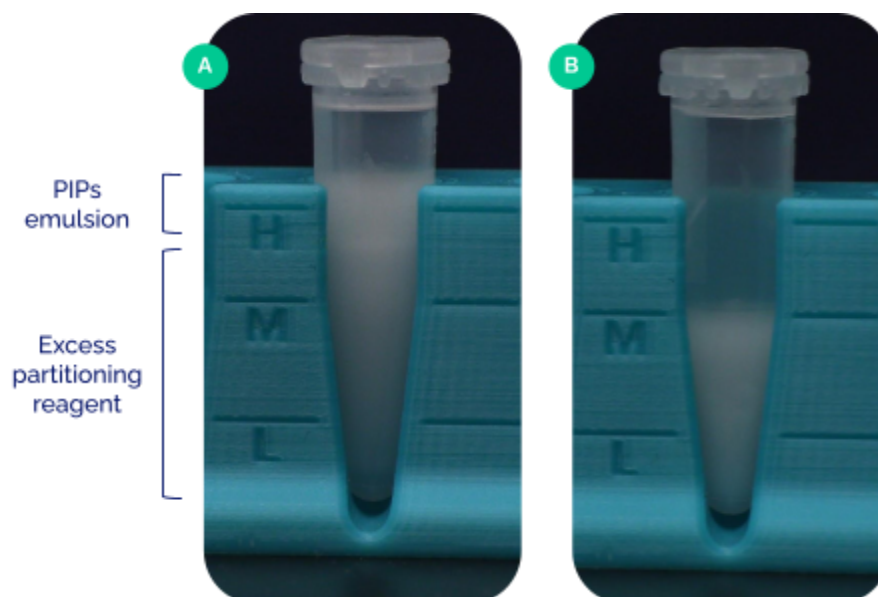

Figure 7: PIP tubes after removing them from the Dry bath (A) and after discarding most of the remaining partitioning fluid (B).
2. Place the PIP tubes into the 1.5 mL stand (FB0002590). Remove and discard any remaining partitioning reagent using a 1 mL syringe attached with a G22 blunt bottom syringe needle. Place the tip through the emulsion slowly until it touches the bottom of the tube, wait for five seconds, and then aspirate out the bottom phase until the top of the emulsion is level with the middle volume marker (“M”) on the stand (Figure 7). **Save this syringe and needle for step 6 and label with the sample name.**